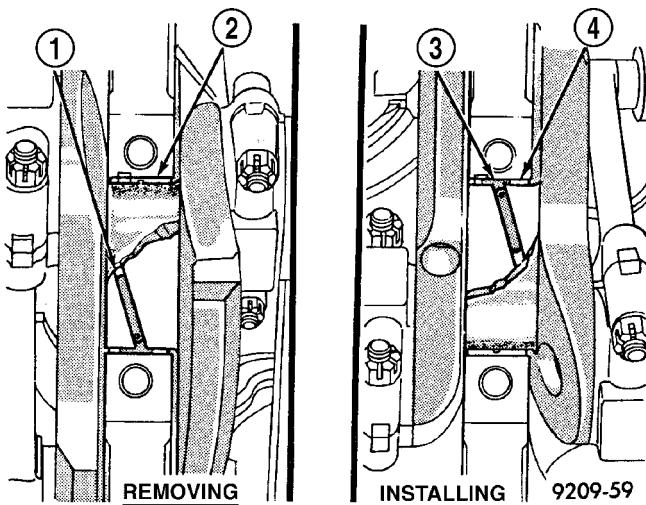

Fig. 69 Removing and Installing Upper Main Bearing With Special Tool C-3059
(4) Remove bearing caps one at a time. Remove upper half of bearing by inserting Special Main Bearing Tool C-3059 (Fig. 69) into the oil hole of crankshaft.
(5) Slowly rotate crankshaft clockwise, forcing out upper half of bearing shell.
(1) Lubricate main bearing with clean engine oil.
(2) Start bearing in place, and insert Main Bearing Tool C-3059 into oil hole of crankshaft (Fig. 69).
(3) Slowly rotate crankshaft counterclockwise sliding the bearing into position. Remove Special Main Bearing Tool C-3059.